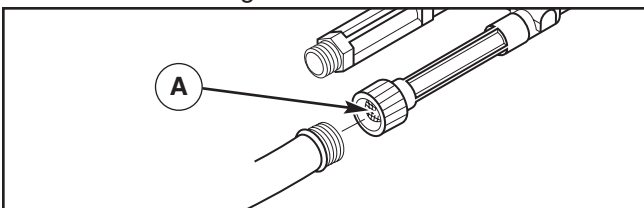

Figure 6: Connect the garden hose to water inlet
3. Before connecting garden hose to water inlet, inspect inlet screen (A) (Figure 6). Clean screen if it contains debris or have it replaced if damaged. **DO NOT** run pressure washer if inlet screen is damaged.
5. Connect the garden hose (not to exceed 50 feet in length) to the water inlet. Tighten by hand (Figure 6).